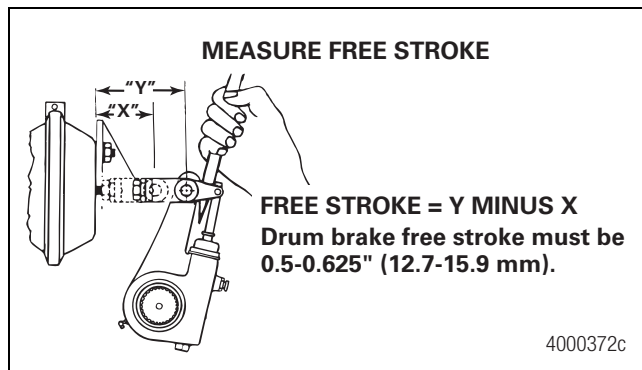

Figure 2
3. Measure the distance from the center of the large clevis pin to the bottom of the air chamber while the brake is released. The measurement you obtain is X in Figure 2.
4. Use a pry bar to move the slack adjuster and position the linings against the drum, brakes applied. Measure the same distance again while the brakes are applied. The measurement you obtain is Y in Figure 2.
5. Subtract X from Y to obtain the in-service free stroke. The measurement must be 0.5-0.625-inch (12.7-15.9 mm) for drum brakes. Figure 2.